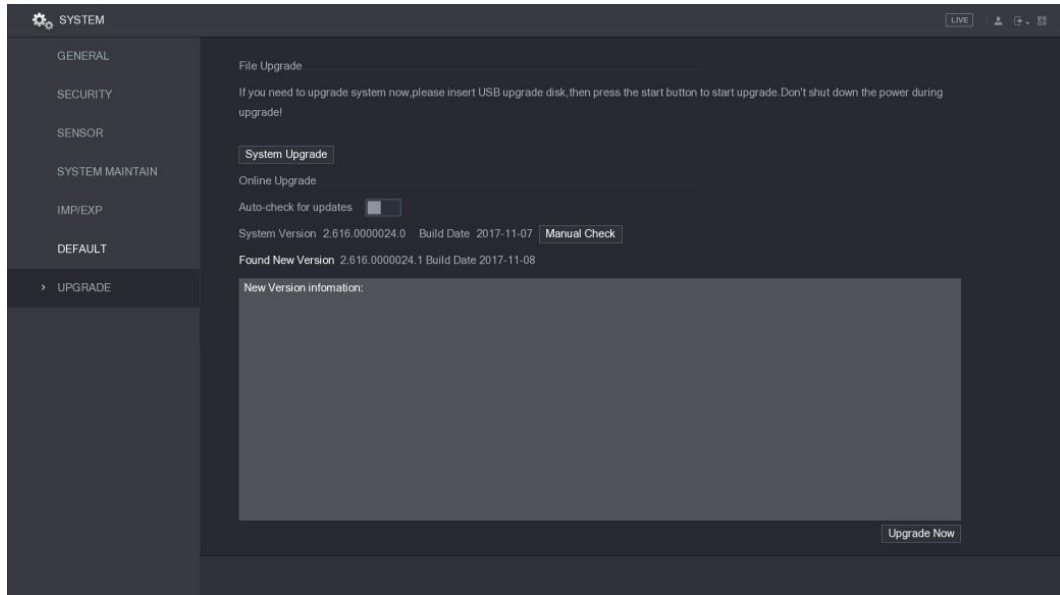

Figure 5-272
- If the text indicating there is a new version, please go the step 3. See Figure 5-272.